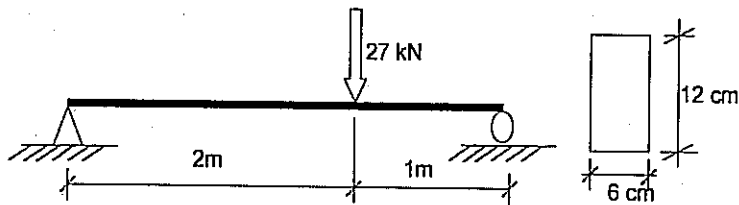

Figure Q3- Loading arrangement
- Derive the expressions for Bending Moment (BM) and Shear Force (SF) at a distance x away from the free end [6-Marks]
- c) A beam is loaded as shown in the Figure Q3. Determine the shearing stress at a point 3 cm below from the top of the beam at a section 1 m away from the left support. (Hint: You may start by drawing the shear force diagram) [10-Marks]